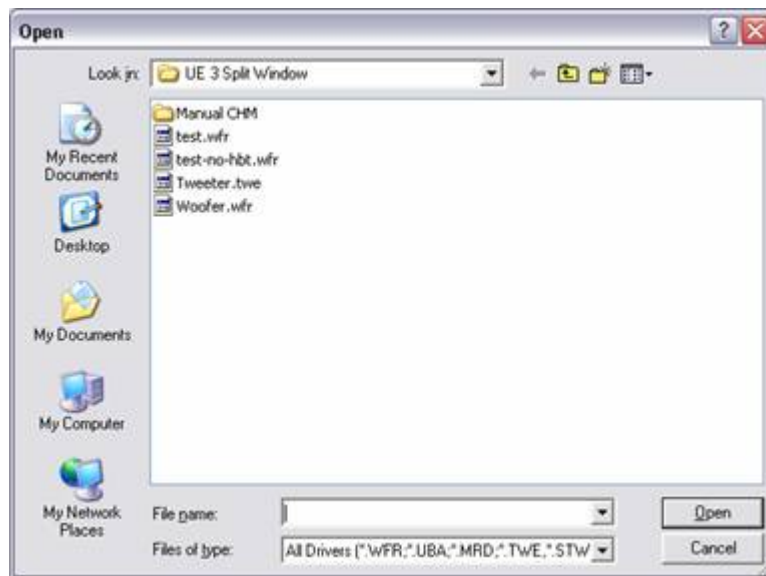

Figure 75. Driver Open Dialog.
2. Click Browse and search for the driver file to be associated with this channel. An Open dialog will appear allowing the desired driver file to be selected. (Figure 75.) Then click Open to load the driver file.